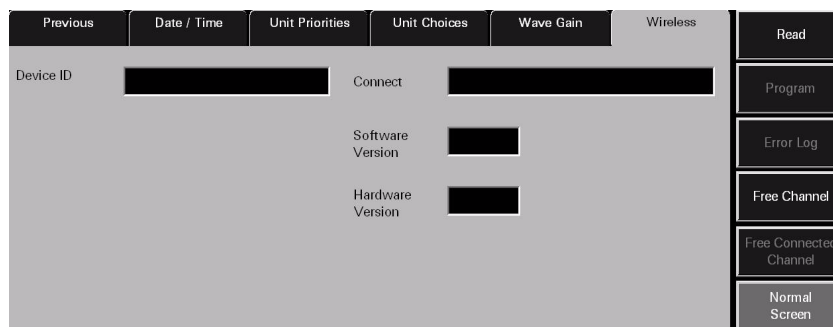

FIGURE 10-3 Wireless Tab
5. Select the **More** tab, then select the **Wireless** tab. The **Wireless** tab is displayed (shown in FIGURE 10-3).